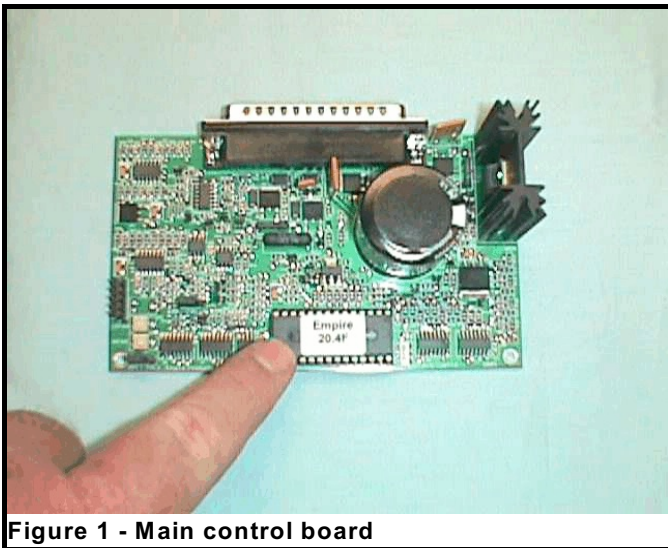

Figure 1 - Main control board
- 3) Find software chip on lower left side of board (**Figure 1**). Note label direction and position of small dot in upper right corner.